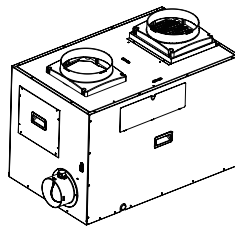

Figure 6
- **Figures 6, 7, and 8** show adjustable air intake and exhaust directions, which users can modify according to their needs. To make these adjustments, follow these steps: